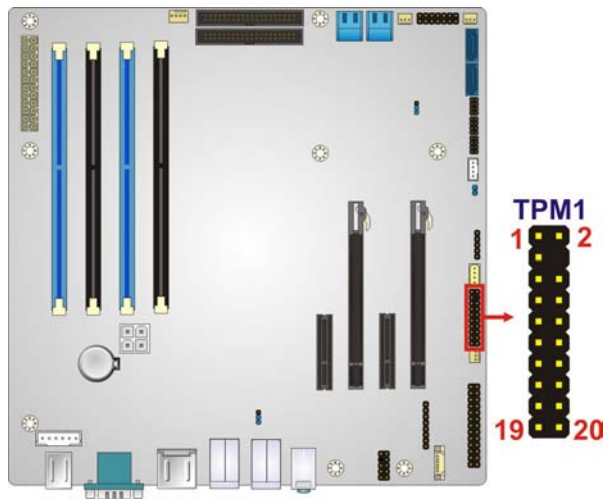

Figure 3-24: TPM Connector Location
- CN Location: See **Figure 3-24**